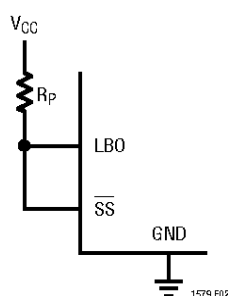

Figure 2. Connecting SS to Low-Battery Detector Output to Prevent Damage to Batteries
Some batteries, such as lithium-ion cells, are sensitive to deep discharge conditions. Discharging these batteries below a certain threshold severely shortens battery life. To prevent deep discharge of the primary cells, the LT1579 secondary select (SS) pin can be used to switch power draw from the primary input to the secondary. When this pin is pulled low, current out of the primary is reduced to $2\mu A$. A low-battery detector with the trip point set at the critical discharge point can signal the low battery condition and force the switchover to the secondary as shown in Figure 2. The second low-battery comparator can be used to set a latch to shutdown the LT1579 (see the Typical Applications).